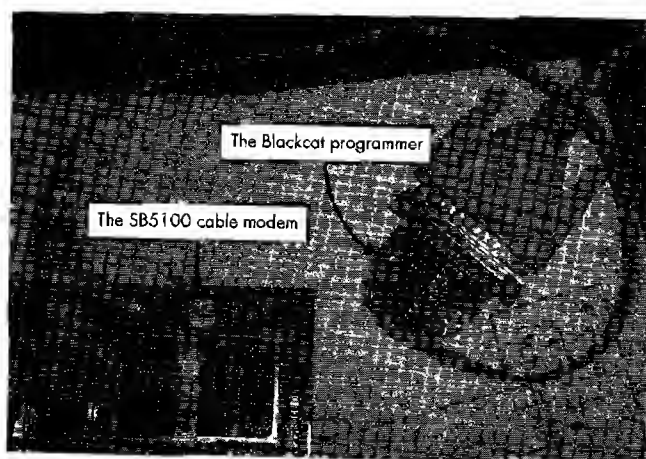

Figure 15-3: A Blackcat cable properly connected to an SB5100 modem
3. Connect the 10-pin IDC ribbon to the 10-pin male header that you soldered in your modem or to the end of the solderless adapter; the ribbon cable needs to be connected so that the end of the cable is facing the tuner, as shown in Figure 15-3.